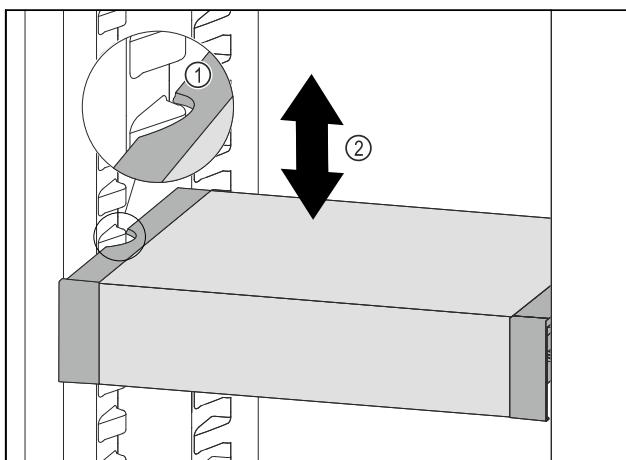

Fig. 91
- Pull VarioSafe forwards until the recesses in the side of the VarioSafe are at the level of the support rib in the refrigerator compartment. Fig. 91 (1)
- Move VarioSafe up or down in the refrigerator compartment until the desired height is reached. Fig. 91 (2)